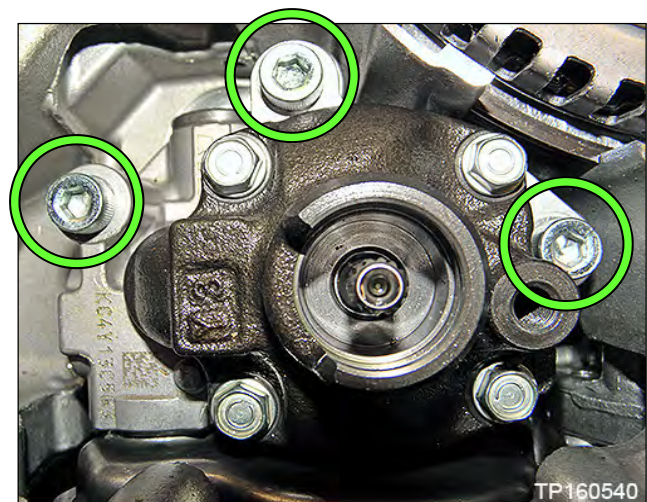

Figure 51
- b. Remove the three oil pump Allen®-head bolts, and remove the oil pump (Figure 51).